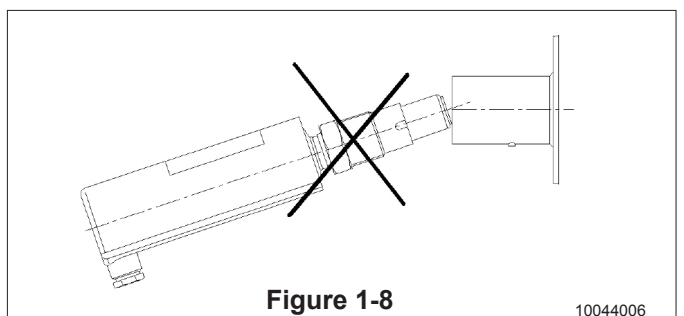

Figure 1-8
- Insert the analyzer **in a straight line** (Fig. 1-8) into the coupling, so that the guide groove on the transmitter aligns with the stop pin on the coupling. The analyzer settles into position when the groove and pin are aligned, and will be prevented from rotating in the coupling.